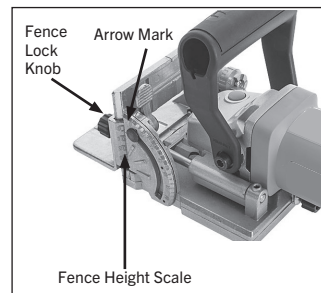

Fig 13. Location of cutting height adjustment components.
2. Loosen fence lock knob and move fence up or down on faceplate until arrow mark on angle scale aligns with desired height on fence height scale (see Figure 13).